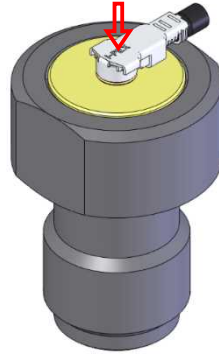

Fig. 4 ② Push the PLUG vertically
- ② Push the center of the PLUG vertically as shown in Fig. 4.